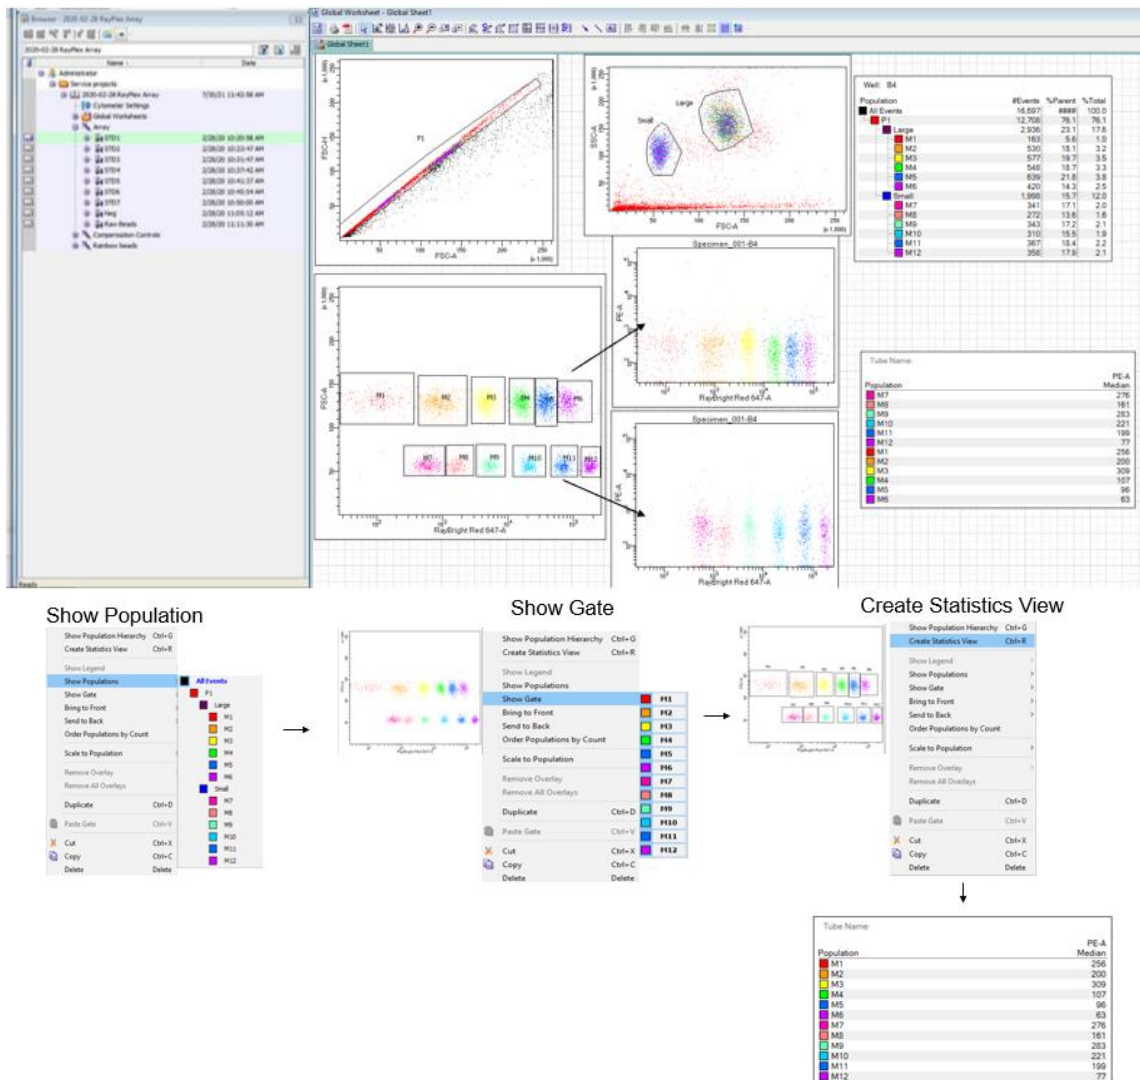
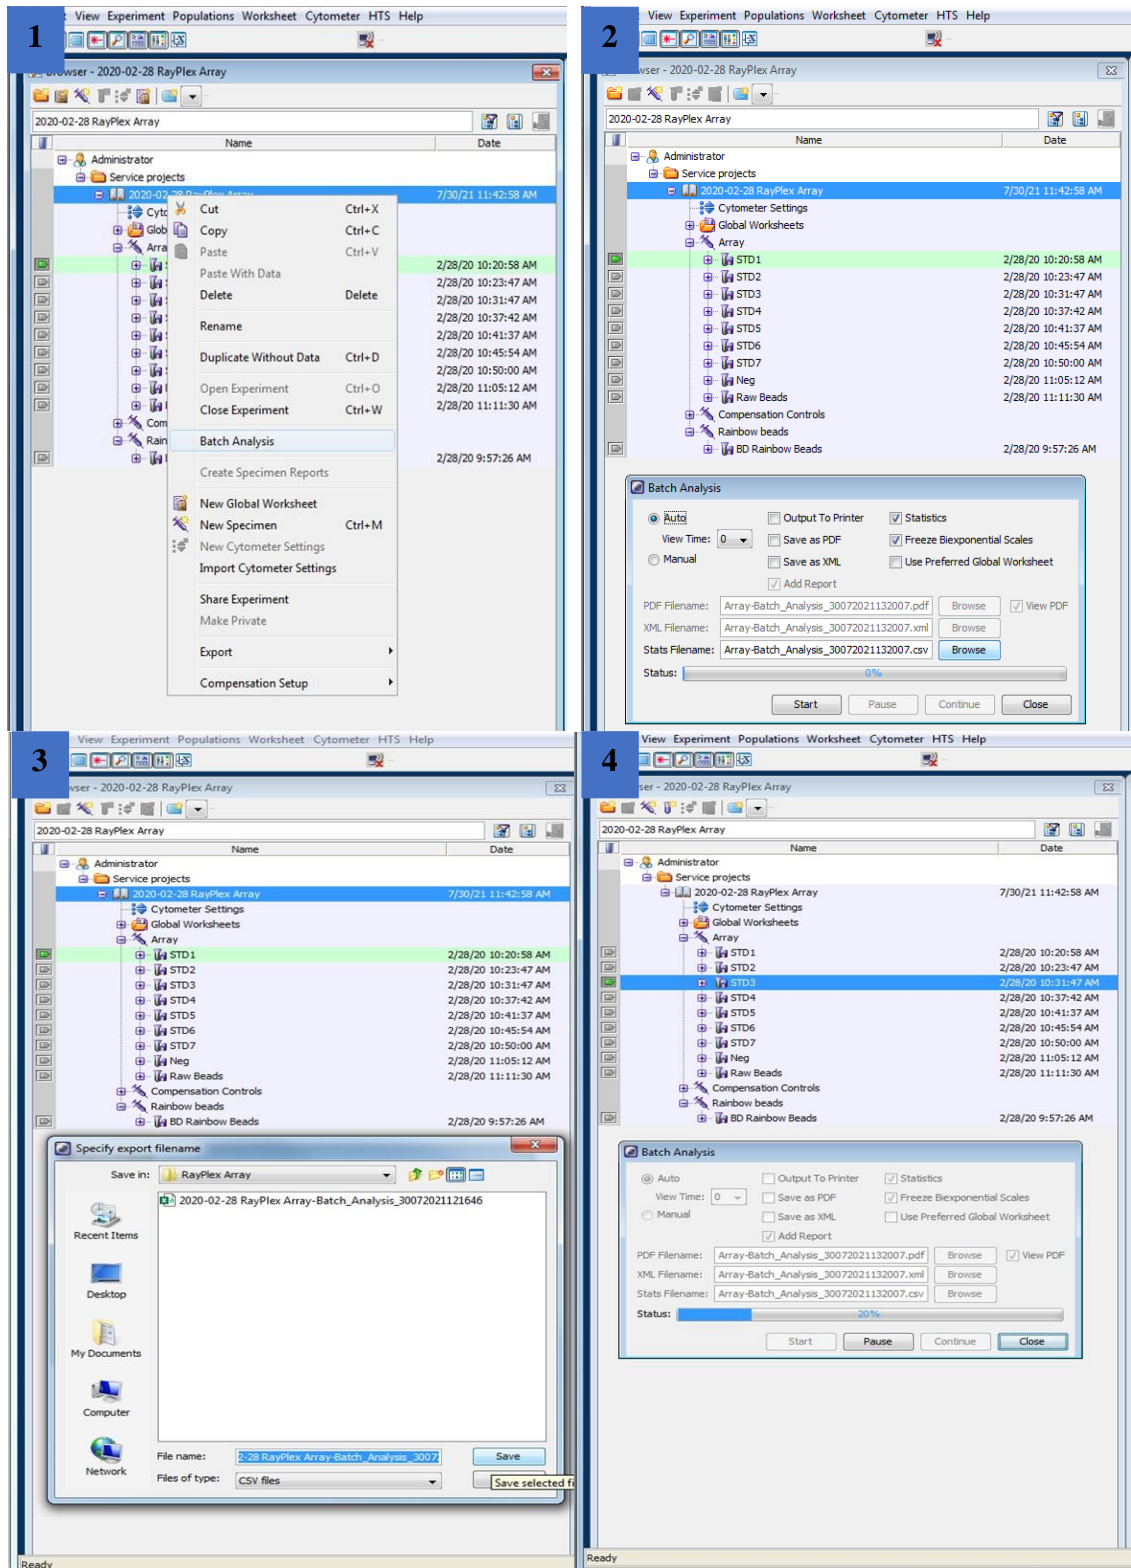

Figure 4. Screenshot of Creating Statistics View from the dot plot of gated beads populations. This is representative data only.
Figure 5. Screen shot showing how to begin the batch analysis through manual tube mode.
Batch analysis allows exporting PE MFI data of each bead population directly from FACS Diva. Before batch analysis, it's important to create statistics view from the dot plot of gated beads populations and choose "PE-A Median" to be shown (Figure 4). Batch analysis can be done in either manual tube mode or HTS mode. Both methods for batch analysis are described below (Figure 5 and 6).
1. Create a dot plot by SSC-A (linear) and APC-A (log) to show all beads populations and make a gate for each population (see figure 4, "Gated DotPlot").
Right click on the dot plot to “Create Statistics View”, then edit the statistics view so that “PE-A Median” of gated beads populations are shown (figure 4, “Statistics View of Gated Plot”).